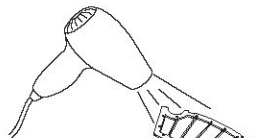

Figure 5
5. Clean the filter by hairdryer or Dust brush. (Refer to Figure 5 and Figure 6)